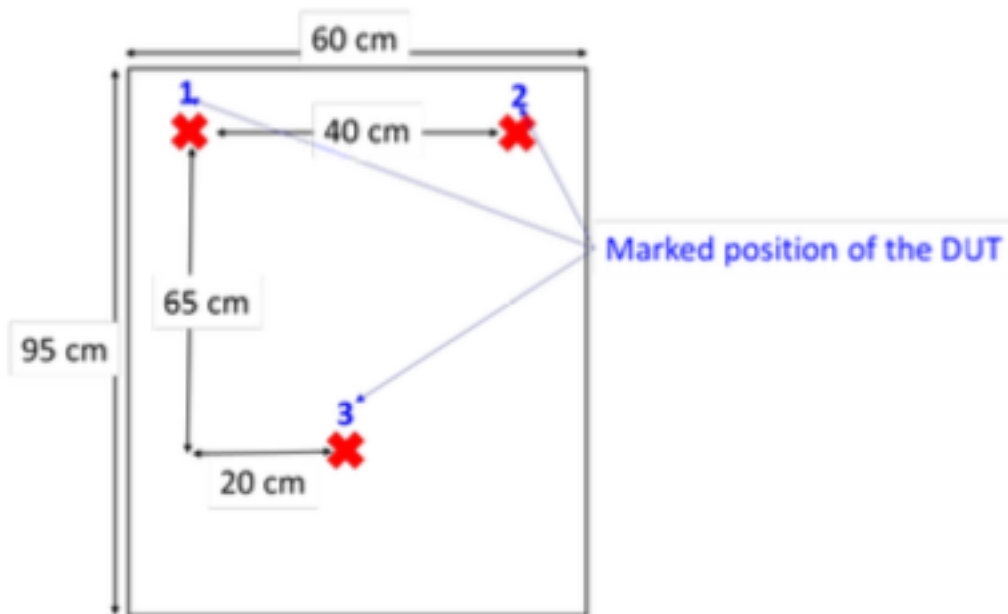

Figure 2: Illustration of the marked positions to mount the DUT on the phantom
10. The device under test will be placed on the phantom (of dimensions  $95\text{ cm} \times 60\text{ cm} \times 35\text{ cm}$ ) located on a table at 3 meters from the reader. The device (WBM) can be mounted on the phantom using double sided adhesive tapes. The competing teams will be asked to place their prototypes at the marked positions for evaluation (see Fig 2).